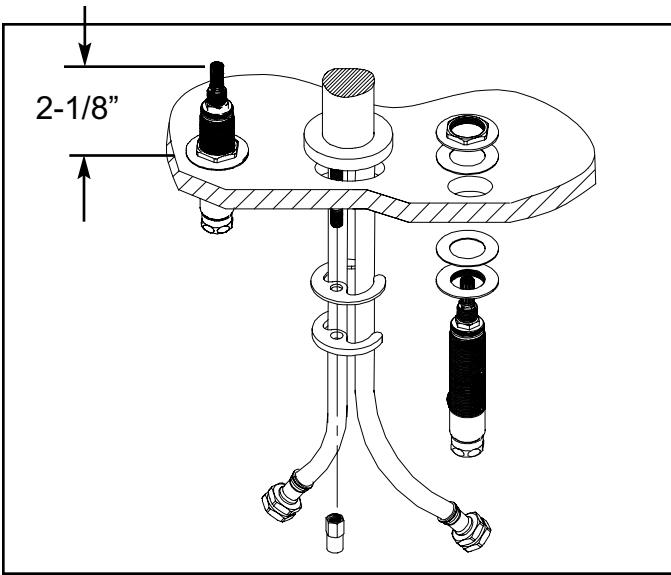

Figure 1
1. Place the spout's threaded rod and hoses through center hole of mounting surface. Secure spout into place with rubber gasket, mounting crescent and nut. See Fig. 1
2. Place nut & washer on valve body. Insert body, (blue cold & red hot), through hole in the mounting surface. Adjust and secure with additional washer and nut so that the top of valve is \* 2-1/8" above the top of mounting surface. See Fig. 1